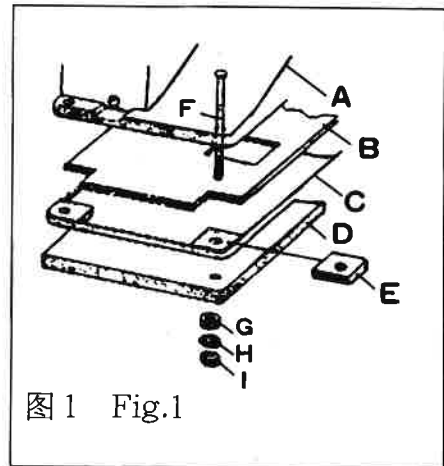
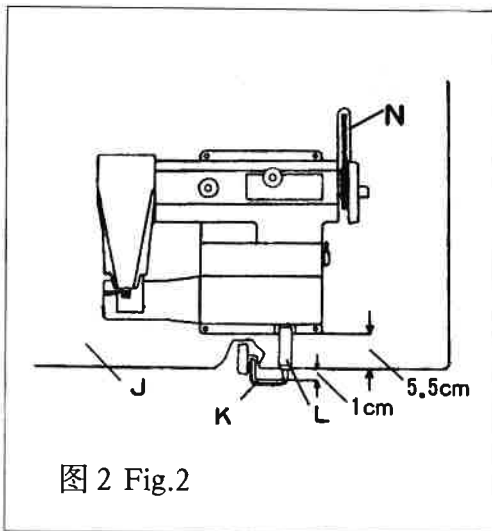

图1 Fig.1
图2 Fig.2
① 首先把后横档和踏板轴档与左右边架连接,再将踏板用踏板轴和踏板轴座与踏板轴档连接
② 将电动机与台板连接
③ 将台板放到机架上面,中间用四只台板垫圈隔开后用四只台板木螺钉和垫圈将台板与机架固定.
④ 将上、下拉杆分别与电机及踏板杠杆连接,并套上拉杆接头,调整好踏板的左右和高低位置后,将踏板固定,将拉杆接头固定,使踏板定位.
(2) Fitting machine frame
① First connect rear stand side support and treadle shaft beam with side frame (left and right),and then link up treadle with treadle shaft beam by treadle shaft and treadle shaft base.
② Mount the motor onto the table.
③ Put the table onto machine frame, partition the table at the centre with four table washers, and fix the table and machine frame with washers and wood screws.
④ Connect upper and lower pull rod with motor and treadle lever, put on pull rod joint. After regulating position of treadle(left and right, high and low),fix the treadle and pull rod joint to locate the treadle
(3) 机头的安装
① 将底盘防震垫“D”、机座底盘“C”、机座防震垫“B”、防震垫“E”、机头“A”依次放到台板上,对准四只孔后将四只小六角螺栓“F”从上到下插入孔中,依次套上防松垫“G”、平垫“H”后旋上六角螺母“T”,对角逐次旋紧四只螺母,将机头固定在台板上(图1)
② 将膝操纵杆“K”及套筒“L”与长轴前端连接,膝操纵杆横杆离台板“J”前端距离为1厘米时将套筒固定(图2).
③ 装上三角带“N”,左右移动电机位置,使电机带轮与机头手轮对准后将电机固定在台板下,调节电机高低位置,使皮带松紧处于适宜状态.
④将电机开关固定在台板右前下方操作方便的位置上,接通电源.
① Put pads "A", "B", "C", "D", "E" onto the table in order as shown in Fig.1. Insert four hexagon head bolts with small head "F" into the holes. After putting on washers "G" and "H", put on hexagon nuts "I", tighten the four nuts diagonally, and fix the machine head on the table (Fig.1)
② Connect front end of long shaft with knee lifter "K" and sleeve "L". When the crossbar of knee lifter is 1 cm. distant from the front end of table "J", fix the sleeve (Fig.2).
③ Put on "V" belt "N", move the motor leftwards or rightwards so as to fix the motor under the sewing table after making the motor pulley in alignment with handwheel. Regulate the motor's height in order to make the belt in an appropriate state of tightness.
④ First fix the motor switch at the bottom right place of the front end of sewing table for the convenience of operation, and then turn on the power.